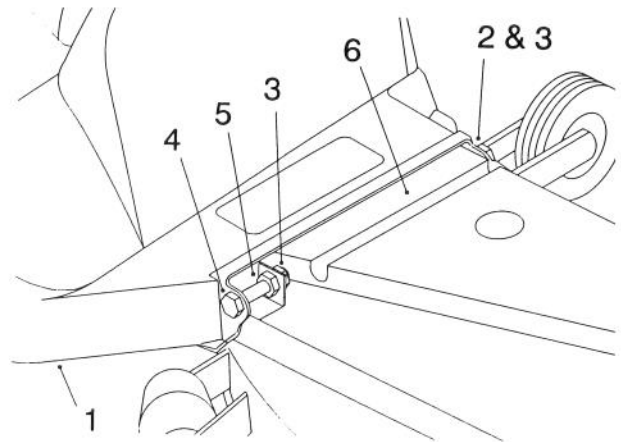

Figure 18
the end. Push the bolt through the hinge clip hole and install the nylon lock nut so one thread protrudes through the nut (Fig. 18). Then tighten the regular nut against the clip.
- b. Mount the left-hand side of the blower belt cover to the mower belt cover using a $\frac{1}{4}$ " x $\frac{5}{8}$ " bolt and $\frac{1}{4}$ " nylon lock nut (Fig. 18). Tighten the lock nut until you feel a slight drag on the cover when you rotate it.